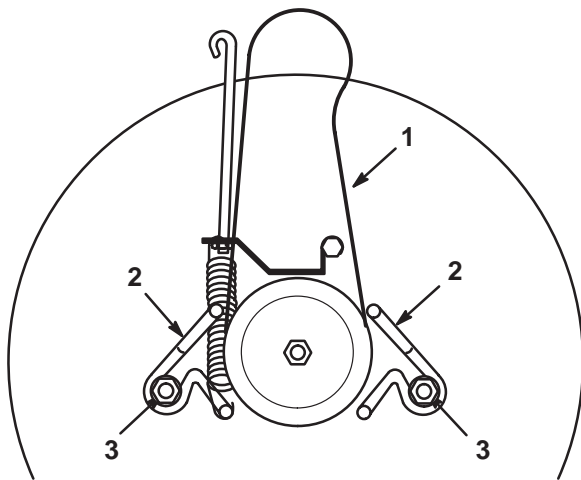

Figure 43
- Loosen the belt guide mounting bolts and move the belt guides away from the pulley (Fig. 43).
- Install the new blade drive belt around the blade pulley and inside both of the belt guides (Fig. 43).
- Adjust the belt guides so they are 1/8 in. (3 mm) away from the pulley. Tighten the mounting bolts (Fig. 43).